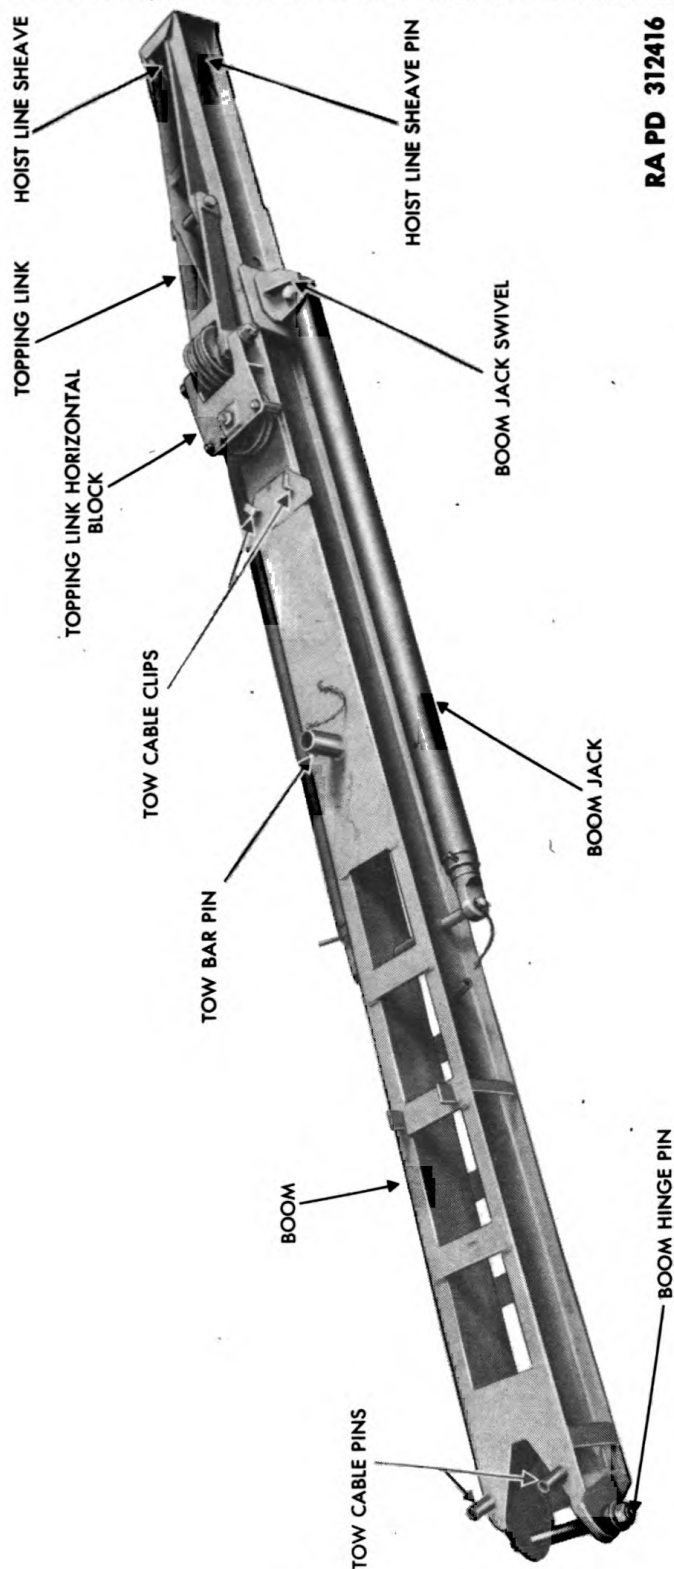

Figure 21 — Boom Assembly
a. **Remove Hoist Line Sheave.** Remove sheave pin spring-loaded lock pin and slide sheave pin to the right out of boom side members and sheaves (fig. 21).
a. General. Inspect the boom for broken welds, stretched or worn sheave pin eyes, missing brackets and stretched or worn anchor pin holes. Inspect boom jack swivel mounting plate for excessive wear and alinement (fig. 21).